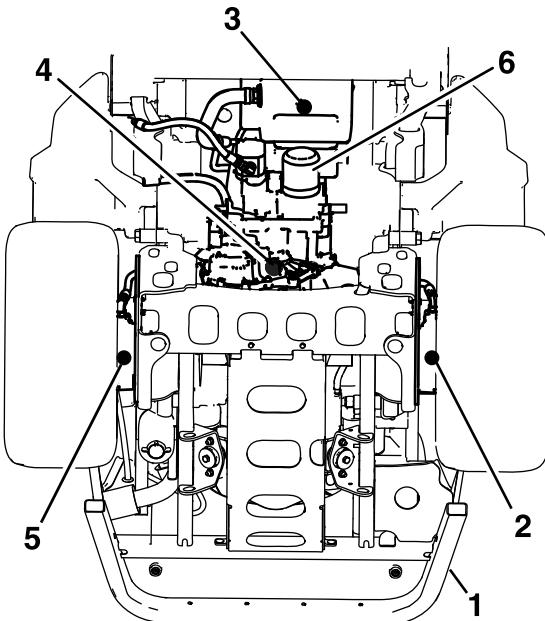

Figure 72
- Place a large drain pan under the hydraulic reservoir, transmission case, and the left and right wheel motors (Figure 72).
- Remove the drain plugs from each area and allow the hydraulic fluid to drain (Figure 72).
6. Clean the area around the hydraulic-fluid filter and remove the filter (Figure 72).